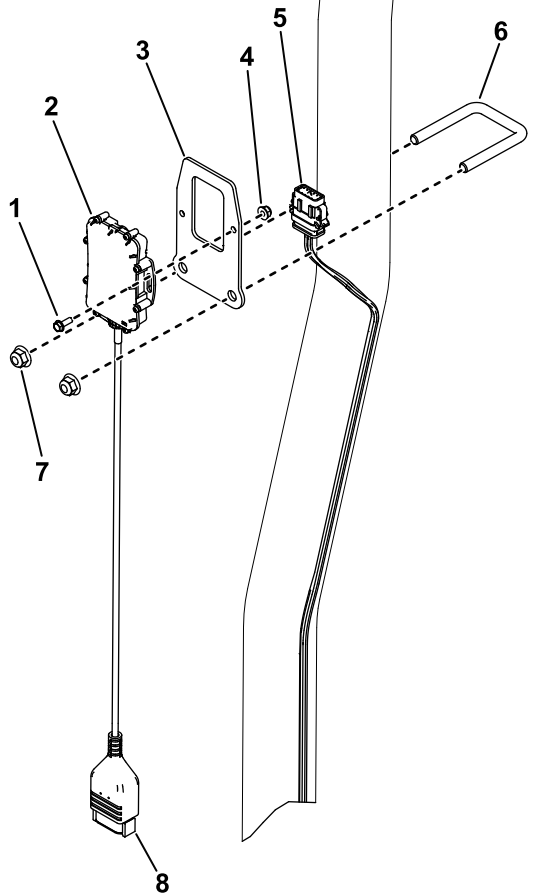

Figure 5
1. Use 2 bolts (#10) and 2 nuts (#10) to secure the telematics device to the device bracket (Figure 5).
2. Use a U-bolt and 2 nuts (3/8 inch) to secure the device bracket to the roll bar (Figure 5).
3. Install the device connector to the connector on the telematics wire harness labeled P02 (Figure 5).